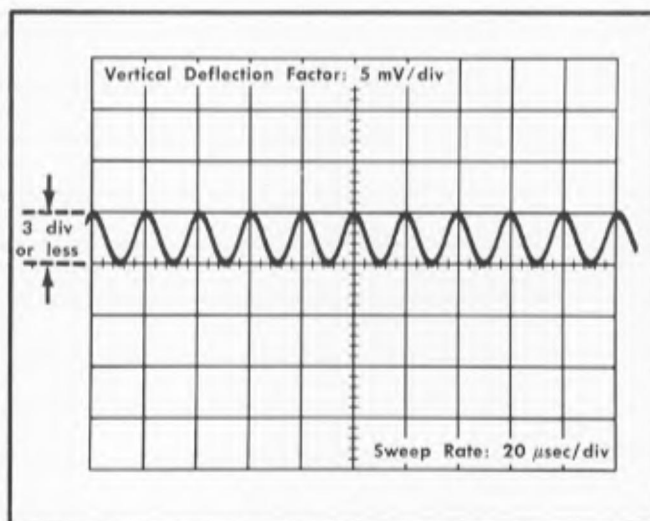

Fig. 5-48. Checking input crosstalk to B side of amplifier when signal is applied to input A.
- e. Check that the amplitude of the display is 3 div or less (see Fig. 5-48). This corresponds to the $\leq 5\%$ input crosstalk requirement.